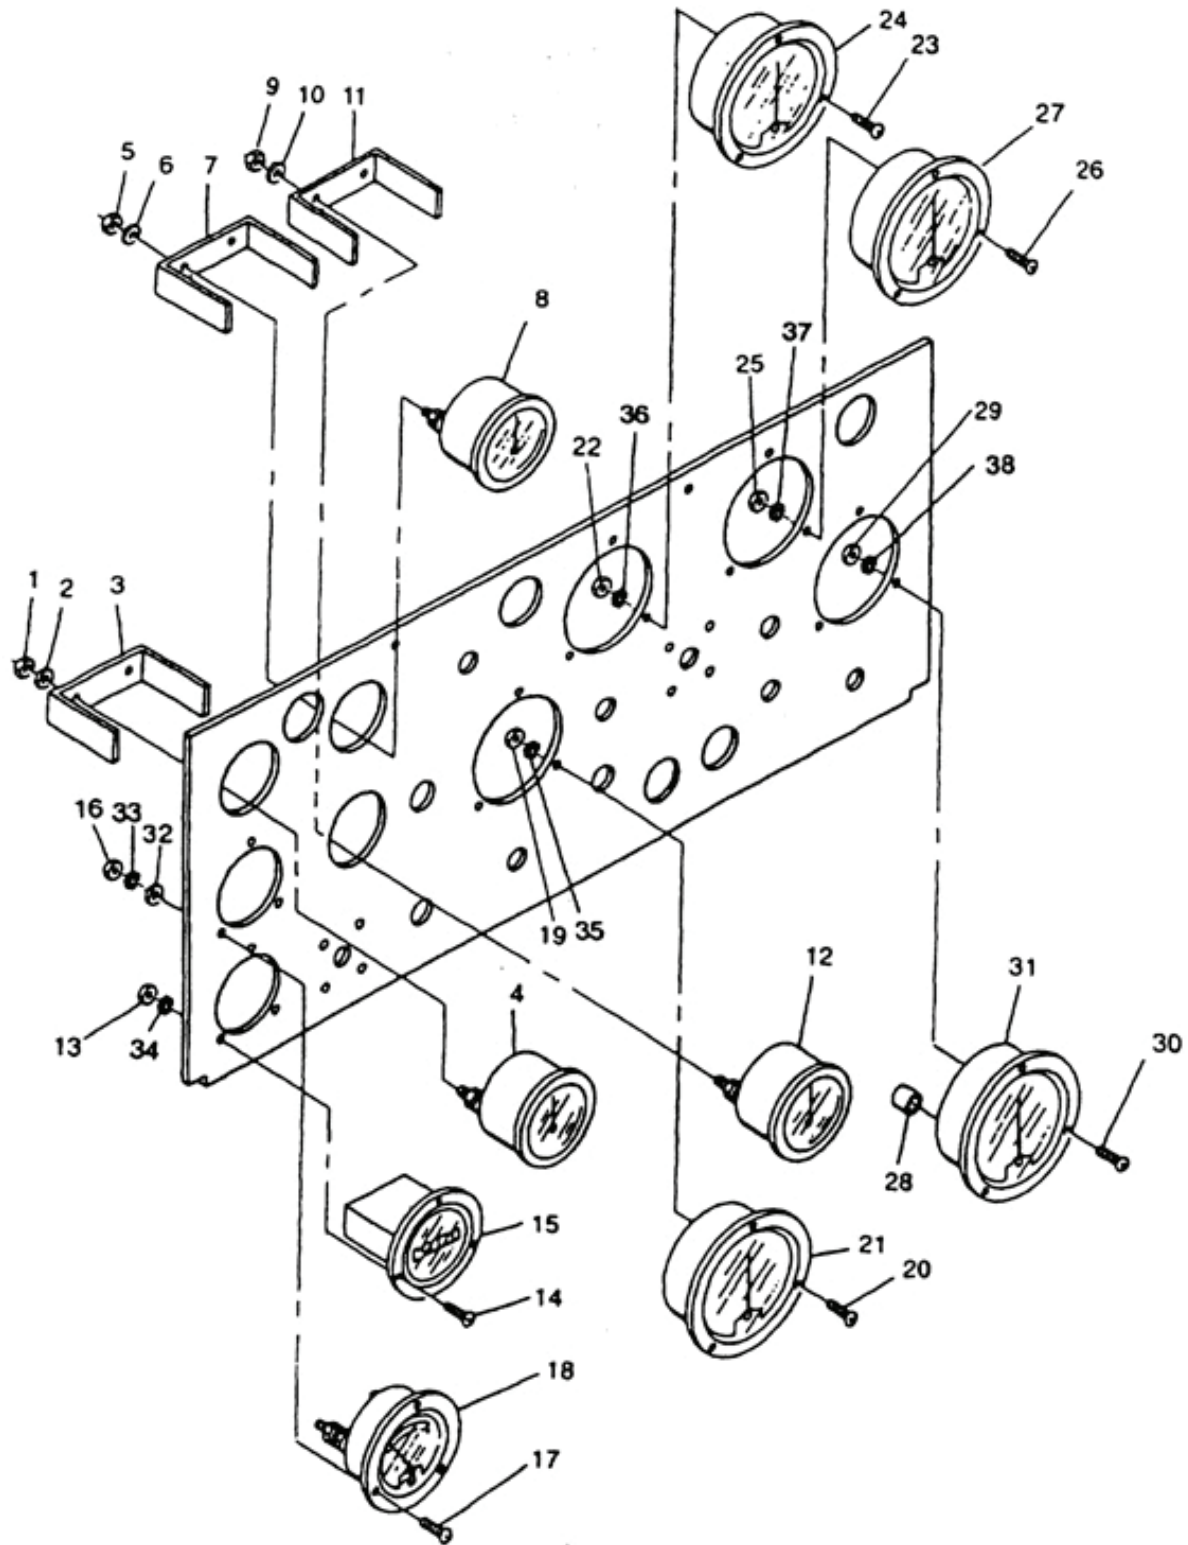

Figure 2-12. Control Panel Indicators.
- d. Tag and disconnect FUEL LEVEL indicator (4, Figure 2-12) electrical leads.
- e. Remove nuts (1), washers (2), and clamp (3).
- f. Remove FUEL LEVEL indicator (4) from control panel.
- a. Insert FUEL LEVEL indicator (4, Figure 2-12) into control panel.
- b. Install clamp (3), washers (2), and nuts (1).
- d. Tag and disconnect TEMPERATURE indicator (8, Figure 2-12) electrical leads.
- e. Remove nuts (5), washers (6), and clamp (7).
- f. Remove TEMPERATURE indicator (8) from control panel.
- a. Insert TEMPERATURE indicator (8, Figure 2-12) in control panel.
- b. Install clamp (7), washers (6), and nuts (5).